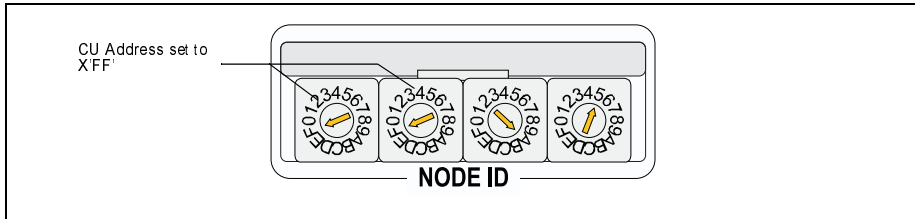

Figure 6-2 CU Address Settings
1. Set rotary switches 1 and 2 to FF. Figure 6-2 illustrates the CU Address switch settings.